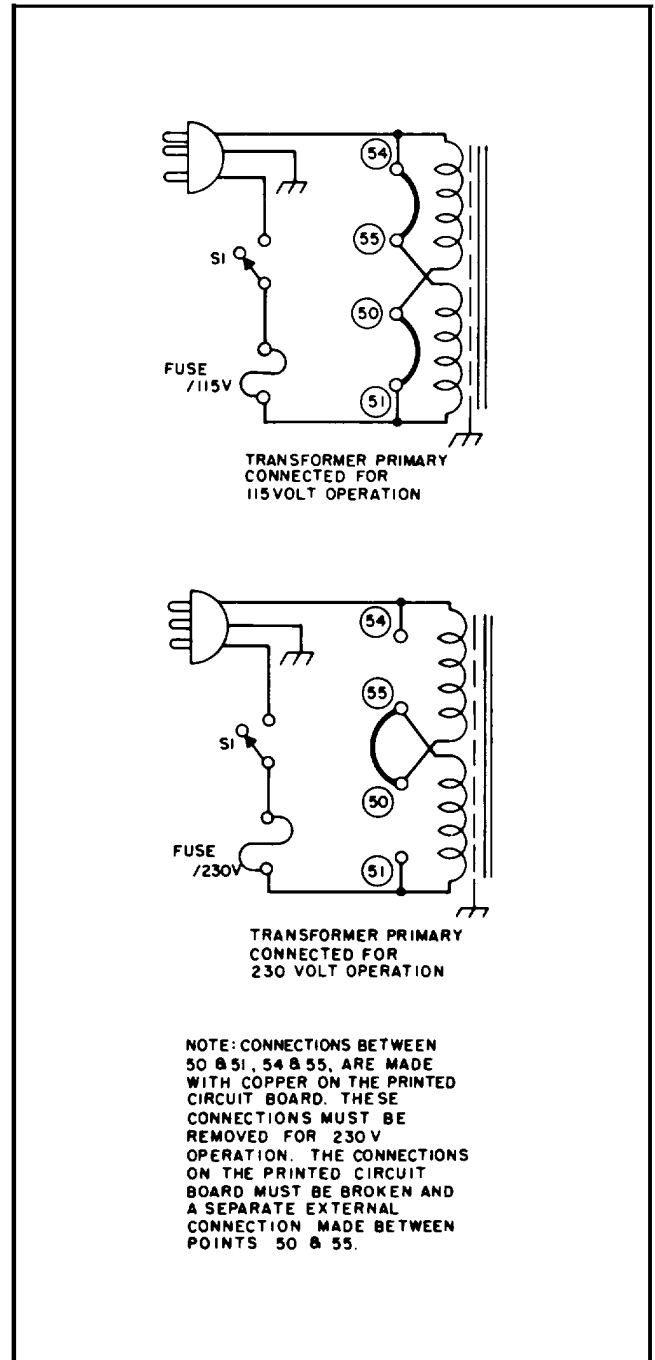

Figure 2-4. Primary Connections
- b. Break the copper between 54 and 55 and also between 50 and 51 on the printed circuit board. The se are shown in Figure 2-4, and are labeled on copper side of printed circuit board.